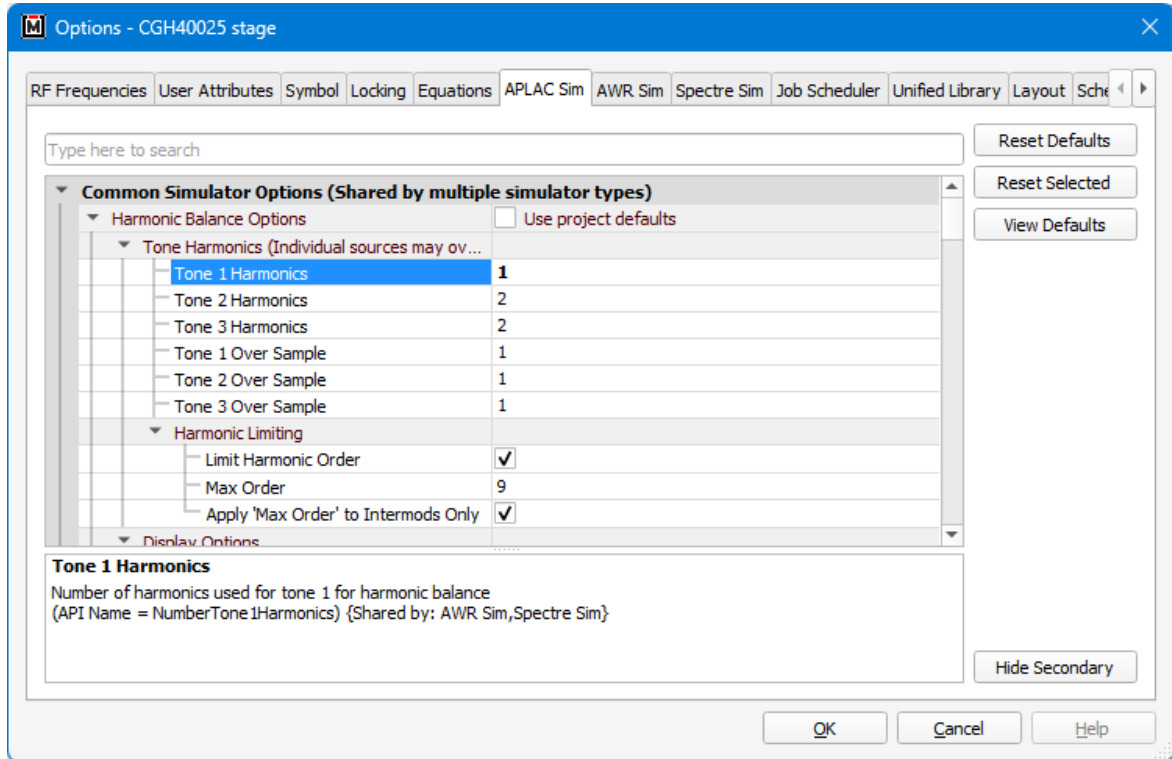

Figure 2
- On the Options dialog box *APLAC Sim* tab for the CGH40025 stage schematic (Figure 2), specify 1 for *Tone 1 Harmonics* to use the fundamental frequency and no other harmonics for nonlinear harmonic balance simulations.